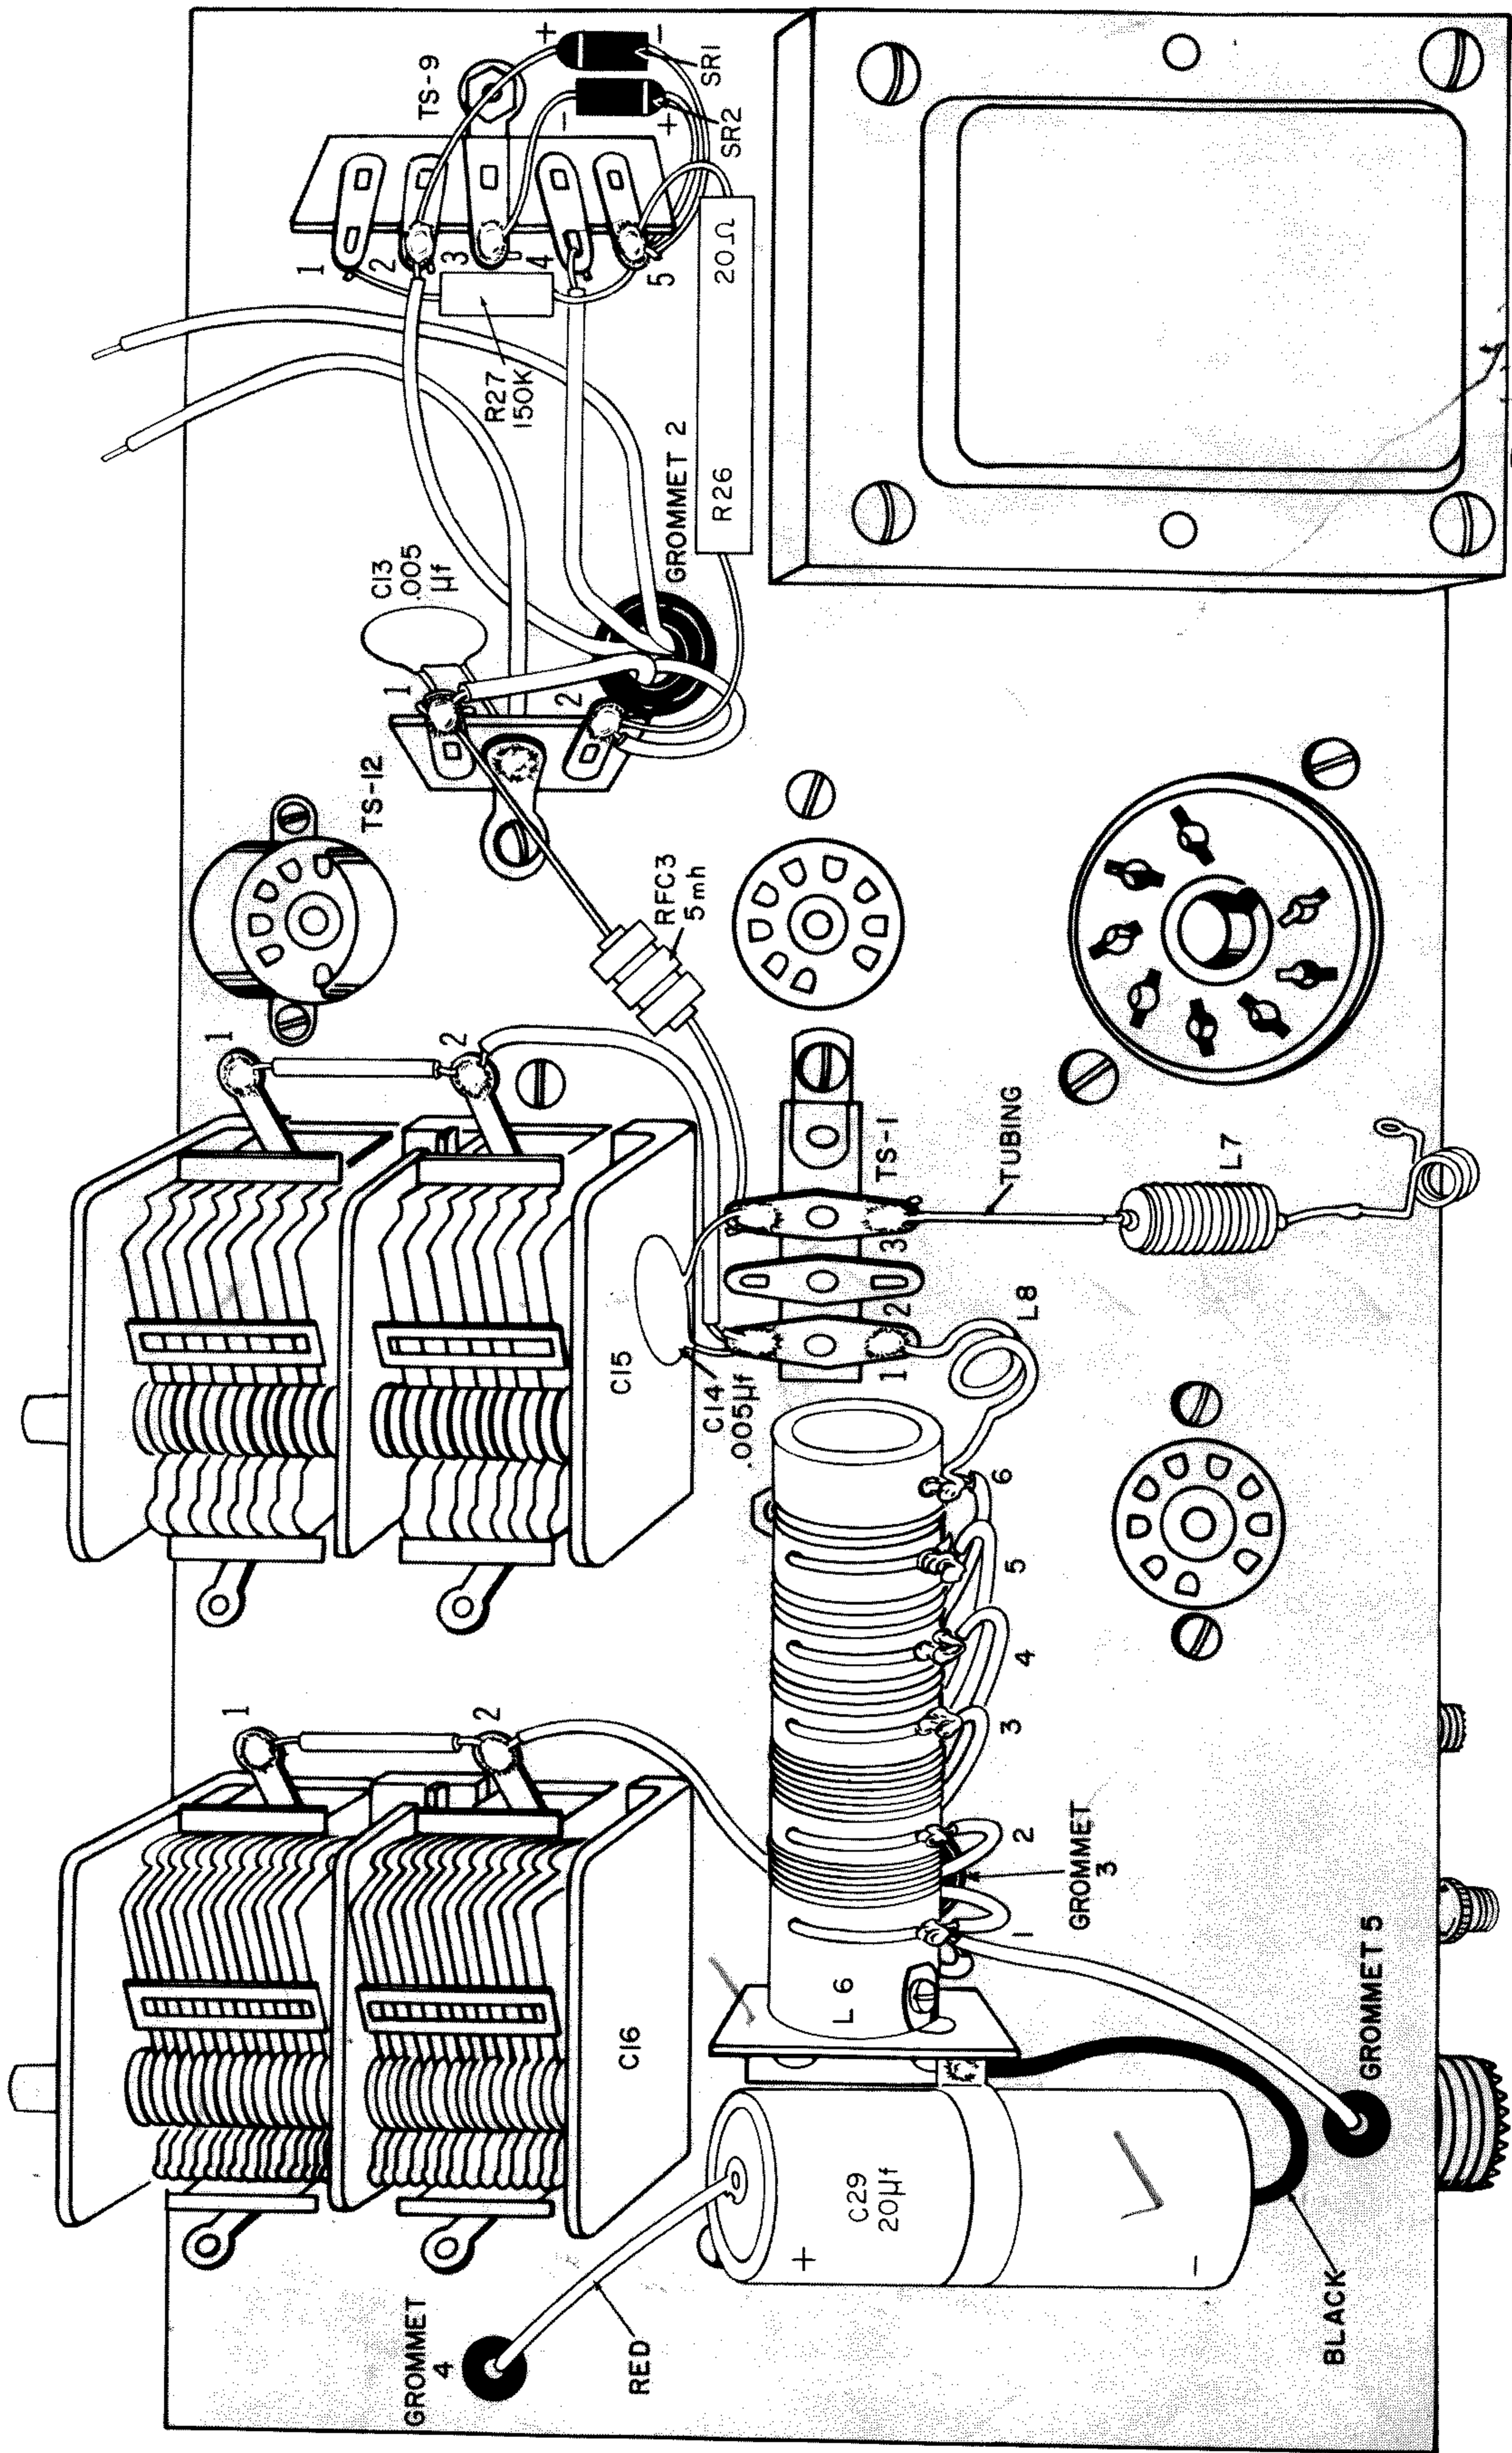

FIGURE 11
### SEE FIGURE 11
- C13, .005  $\mu$ f, disc capacitor. Connect one lead to terminal 1 of TS-12. Insert other lead in center hole of TS-12 as shown in Figure 11.
- Solder black wire on capacitor to C29 mounting bracket. See Figures 11 and 13.
- SR2, silicon rectifier. Cut leads to  $\frac{3}{4}$ ". Connect the positive (+) lead (banded end) to terminal 5 of TS-9. Observe polarity as shown in Figure 11. Solder the Negative (-) lead to terminal 3 of TS-9. Soldering silicon rectifiers calls for protection from heat. Hold the lead near the body of the rectifier with long-nose pliers while soldering. Hold lead till solder hardens and cools.